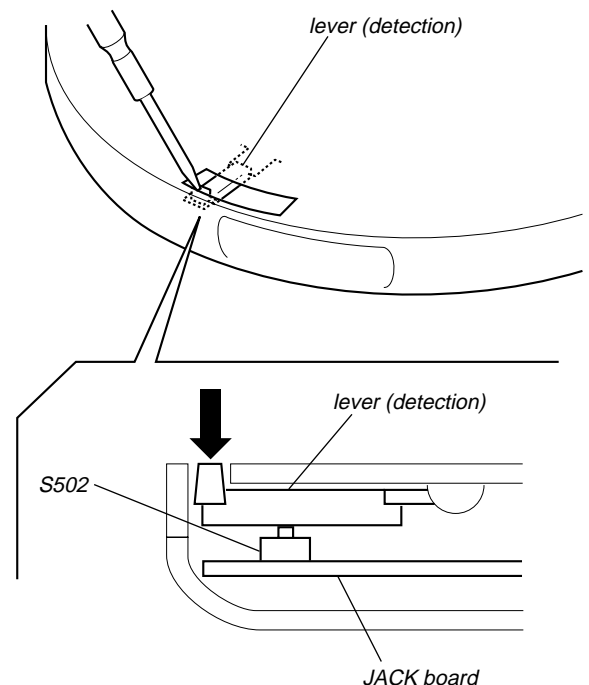

Fig. 1 Method to push the S502
2. With a disc not set, turn on the S502 with a screwdriver having a thin tip as shown in Fig. 1.